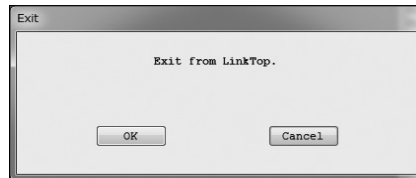

Fig.15
To exit the LinkTop, click on "File (F)" at top-level menu of the screen, and select "Exit (E)". A message box as shown in Fig. 15 appears. If you are sure to exit the LinkTop, click on "OK" button. Clicking on "OK" button will cause the application window to disappear from the desktop.